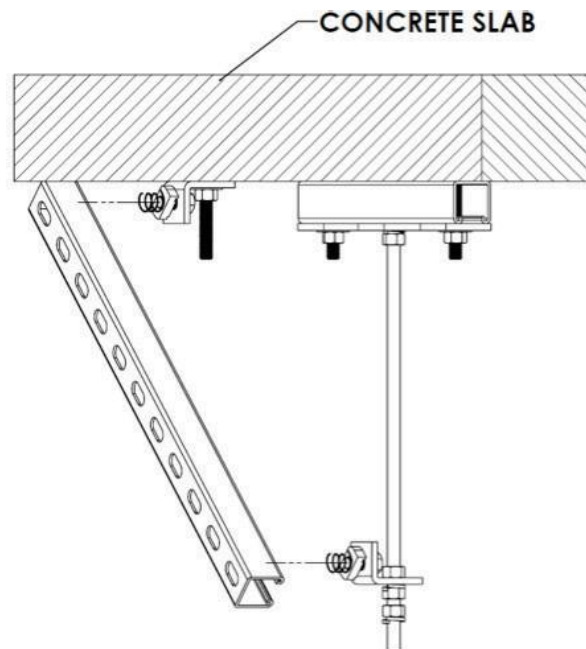

Figure 266: **Secure the Slotted Strut Channel to the Two-Hole 90° Strut Fitting**
11. Secure the 1 5/8" slotted strut channel to the two-hole 90° strut fitting on the concrete slab, with the lower end angled towards the two-hole 90° strut fitting on the threaded rod (Figure 266).